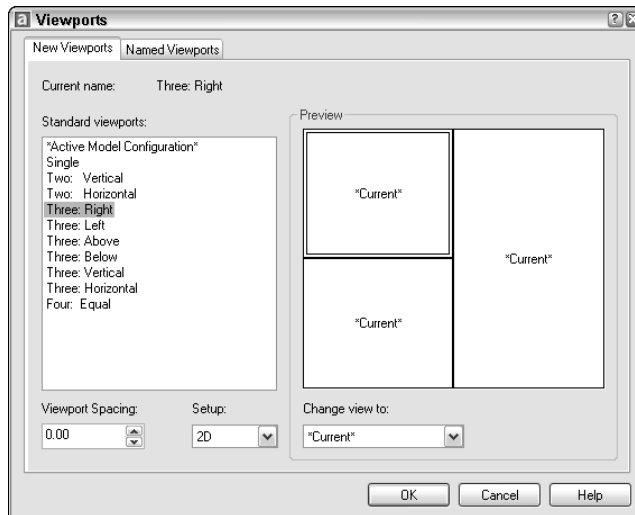

Figure 17-10: Use the Viewports dialog box to choose one of the standard configurations of floating viewports.
- ◆ **New Viewports:** Choose this item to open the Viewports dialog box, shown in Figure 17-10. Choose one of the standard configurations. AutoCAD displays it in the Preview box. Click OK to create the viewports.